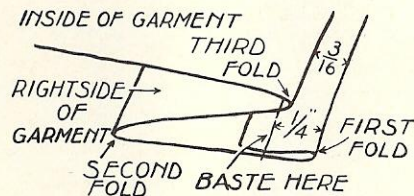

Fig. 3. Preparation of Material for Making Invisible Hem with Folded Edge
## No. 1. HEM WITH FOLDED EDGE (See Fig. 3)
- Now fold hem toward right side of garment, exposing about one-half of the **first fold**, as shown in Fig. 3.